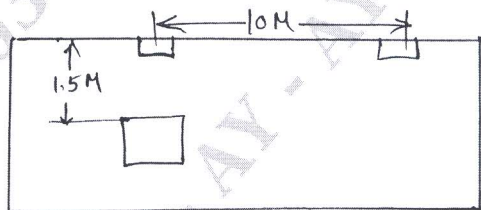

Fig.Q6(b)
b. In a workshop, one 15hp, 400V, 3 - ϕ , 50Hz motor is to be installed. Prepare the estimate of the cost required with layout of the wiring. Then plan of the workshop is show in Fig.Q6(b). The distribution board is placed vertically at the height of 1.5m from ground level.